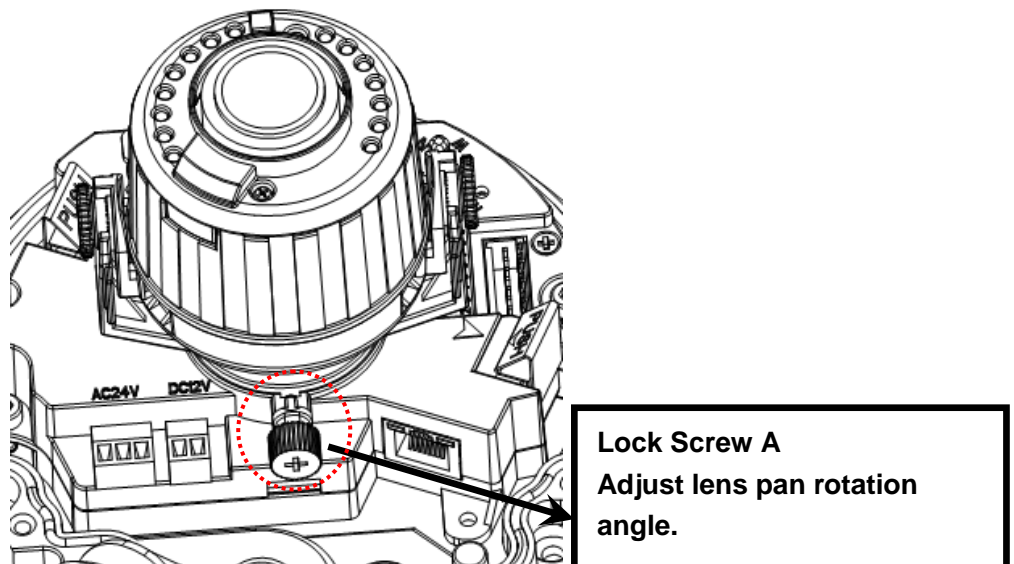
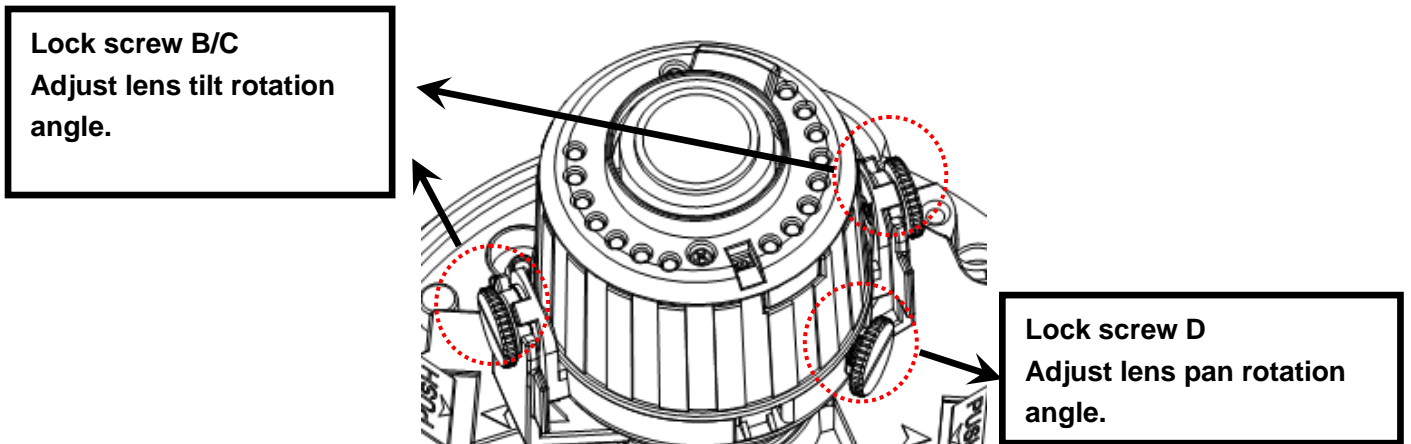

Figure 3-6 Installation 4
Figure 3-7 Installation 5
b) Lens pan rotation angle setup. Please refer to Figure 3-6 to unfasten the lock screw A and adjust the pan monitor angle to the proper position. Then fix the lock screw A. The pan angle ranges from  $0^{\circ}$ ~ $+350^{\circ}$ .
d). Image pan rotation angle setup. Please refer to Figure 3-7 to turn lock screw D to adjust the video pan angle. Then fix the lock screw B and C. The video pan angle ranges from 0°~+350°.
Please note Figure 3-6 and Figure 3-7 is based on the IR motorized zoom camera. For the IR manual zoom camera and non-IR series product, the lock screw position and the lens angle adjustment are the same.